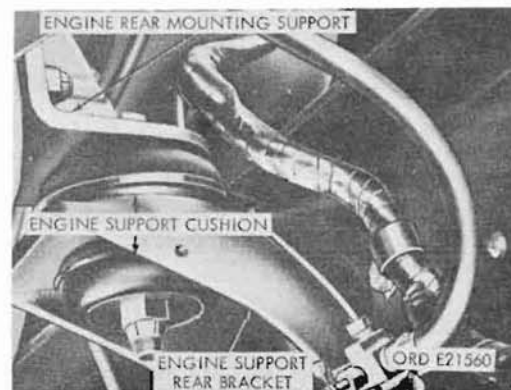

Figure 92. Engine rear mounts
- (1) Remove the self-locking nut and bolt on each side of the engine securing the engine and the engine rear mounts to the frame (fig. 92).
- (b) Disconnect engine at rear mounting supports (fig. 92). Remove the two nuts and screws securing the engine rear mounting supports to the engine rear support brackets, and remove the engine, support cushions, one set on each side. Loosen the screw holding the engine ground strap to mounting support, and slide open the end of the strap from support.